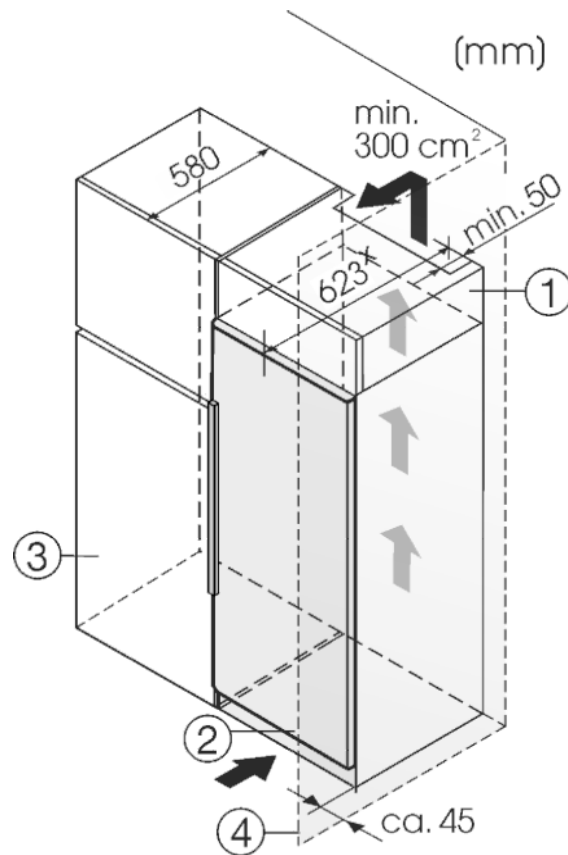

Fig. 8
The appliance can be built into kitchen units. A top cupboard Fig. 8 (2) can be added above the appliance in order to bring the appliance Fig. 8 (1) up to the height of the fitted kitchen units.
If the appliance is installed with the hinges next to a wall Fig. 8 (4), the distance between appliance and wall has to be at least 40 mm. This corresponds to the projection of the handle when the door is open.